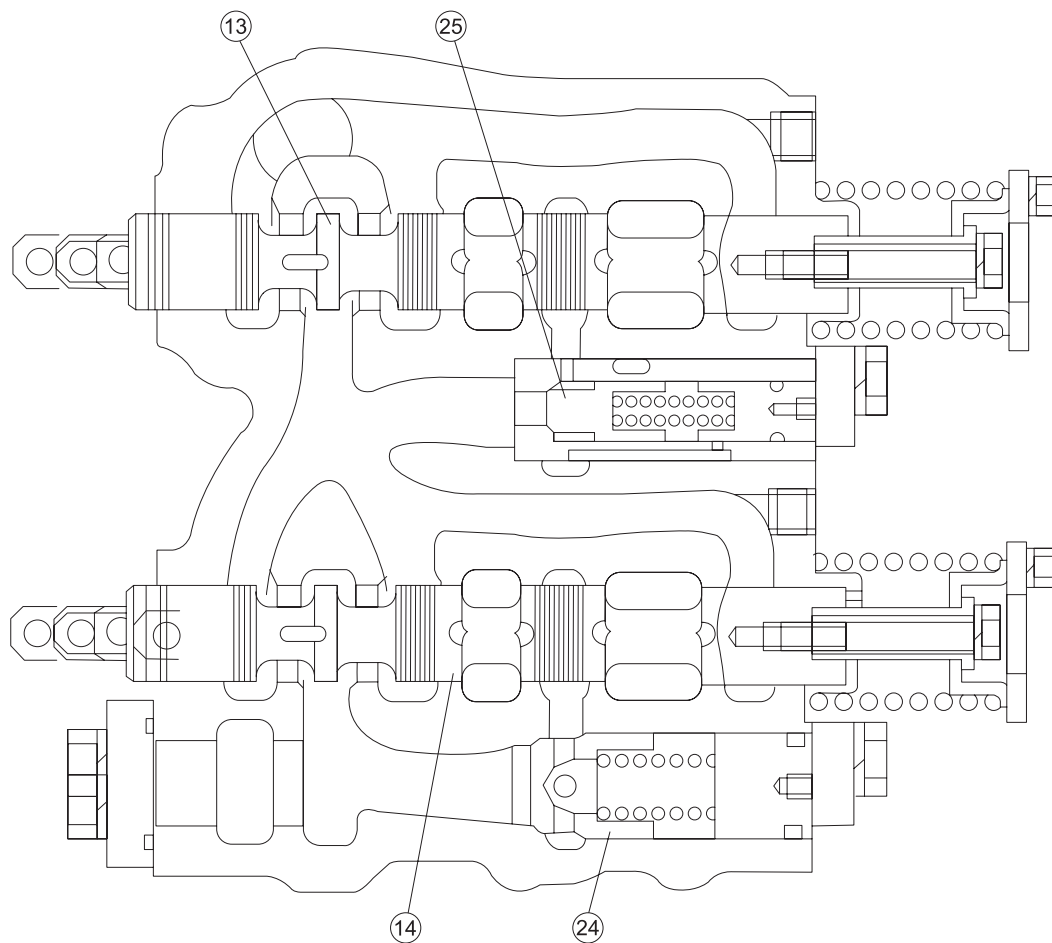

Figure 3-55
In order to let the tilt cylinder have an ideal movement speed, we have provided the flow control valve (25). (See Figure 3-55)